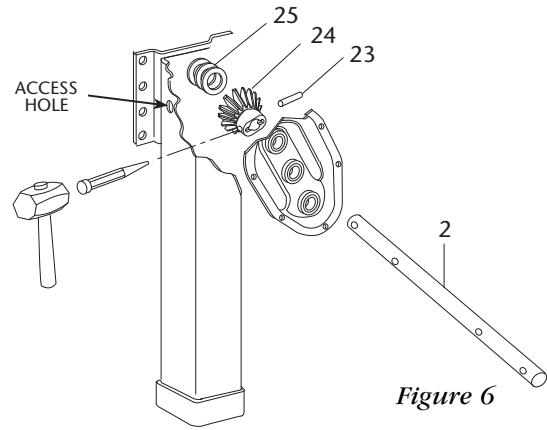

Figure 6
6. Place a punch in the access hole, align it with the bevel pinion gear groove pin (*Item 23*) and drive out the groove pin (see *Figure 6*).